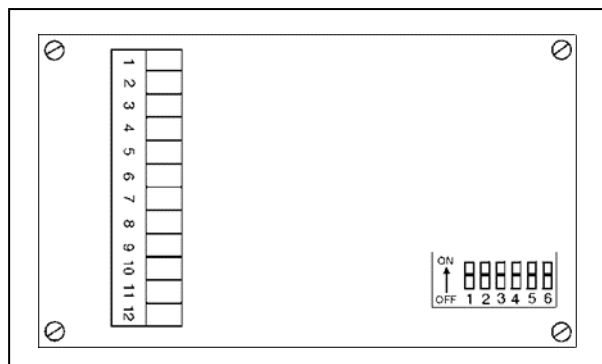

Figure 2. Connector and Switches on PIB Board
The default setting from the factory is “times 1.” The switch is closed (ON). To multiply the incoming pulses times 2, push the switch of the incoming pulse channel to the open (OFF) position. The switches are located on the PIB boards, as shown in Figure 2. The PIB board that is located on the EAAI board is for pulse inputs 1 through 6. The PIB board that is located on the BSE board is for pulse inputs 7 through 12.